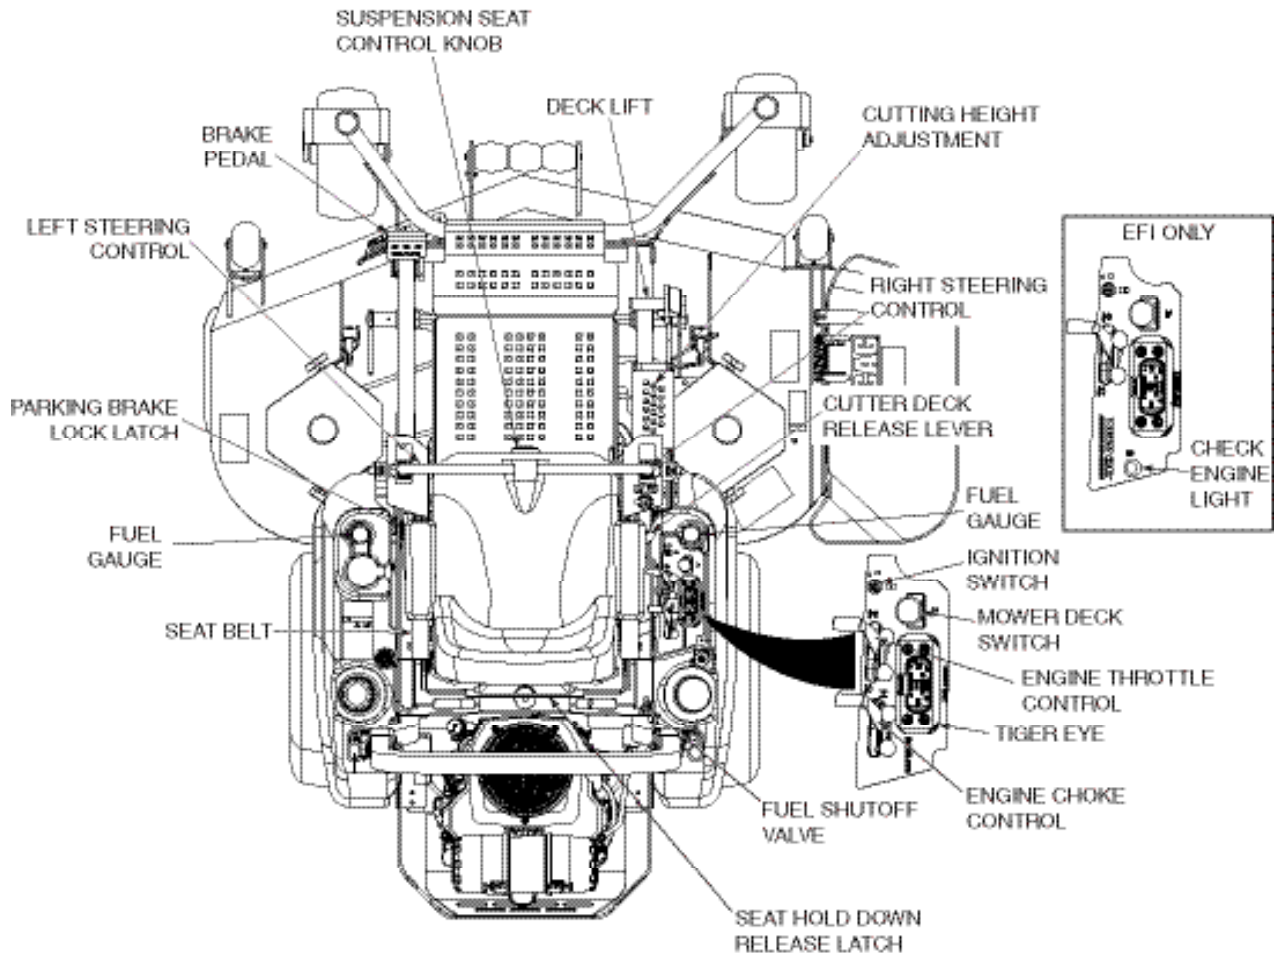
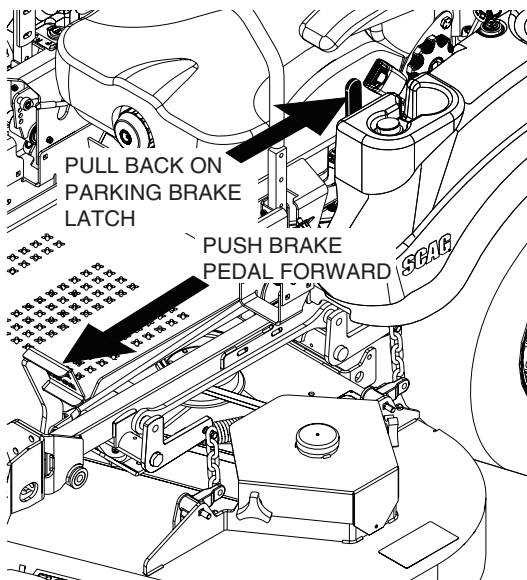
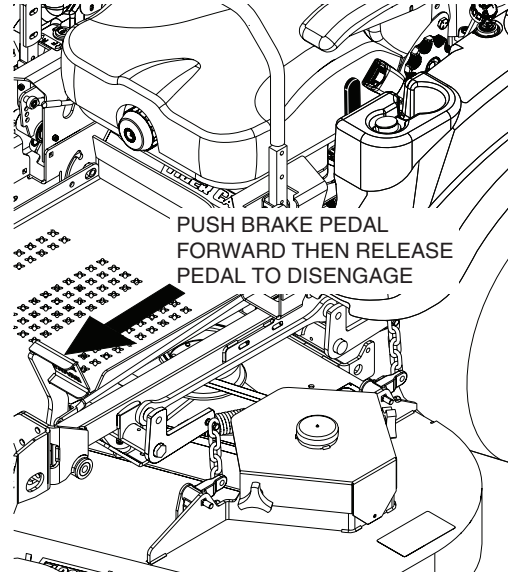

Figure 4-2. Controls and Instruments
Figure 4-3. Engaging Parking Brake
Figure 4-4. Releasing the Parking Brake
12. **Fuse Holders (Figure 4-2).** Two 20-amp fuses protect the mower's electrical system. To replace fuses, pull fuse out of the socket and install a new fuse.
1. **Ignition Switch (Figure 4-2).** The ignition switch is used to start the engine and has three positions; OFF, ON, and START.
2. **Mower Deck Switch (Figure 4-2).** Used to engage and disengage the mower drive system. Pulling up on the switch will engage the deck drive. Pushing down on the switch will disengage the deck drive.
3. **Engine Choke Control (Figure 4-2).** Used to start a cold engine.
4. **Engine Throttle Control (Figure 4-2).** Used to control the engine speed. Pushing the lever forward increases engine speed. Pulling the lever back decreases engine speed. Full back position is the IDLE position. Full forward is the cutting position.
5. **Left Steering Control (Figure 4-2).** Used to control the mower's left wheel when traveling forward or reverse.
6. **Right Steering Control (Figure 4-2).** Used to control the mower's right wheel when traveling forward or reverse.
8. **Parking Brake Lock Latch (Figure 4-2).** Used to lock the parking brake in the engaged position. Fully depress the brake pedal and pull the parking brake lock latch back to lock the parking brake in the engaged position. See Figure 4-3. Fully depress the brake pedal forward to disengage the parking brake lock latch, then release the brake pedal to disengage the brake. See Figure 4-4.
9. **Fuel Tank Gauge (Figure 4-2).** Indicates the amount of fuel in the fuel tank.
11. **Deck Lift Foot Lever (Figure 4-2).** Used to raise and lower the cutter deck. Push full forward to lock in the transport position.
12. **Cutting Height Adjustment (Figure 4-2).** Used to set the cutter deck at the desired cutting height.
13. **Deck Release Lever (Figure 4-2).** Used to lock the cutter deck in the transport position. Push the foot pedal forward and pull back on the release lever to release the cutter deck for normal mowing.
14. **Seat Suspension Control Knob (Figure 4-2).** Used to select the optimum suspension rate based on the operator.
15. **Seat Belt (Figure 4-2).** Used to secure the operator. Seat belt must be worn at all times when the ROPS is in the upright and locked position.
16. **Seat Hold Down Release Latch (Figure 4-2).** Located behind the seat. Used to secure the seat in the operator's position. Release the latch to gain access under the seat.
17. **Fuel Switching Valve (Figure 4-2).** Located on the right side of the machine. Used to shut off fuel supply to the engine and change fuel supply between the fuel tanks. Rotate the valve counter clockwise to supply fuel from the tank on the left side only. Rotate the valve clockwise to supply fuel from the tank on the right side only.
2. Engage the deck drive by pulling out on the yellow switch, located on the instrument panel, to the engage position. See Figure 4-3.